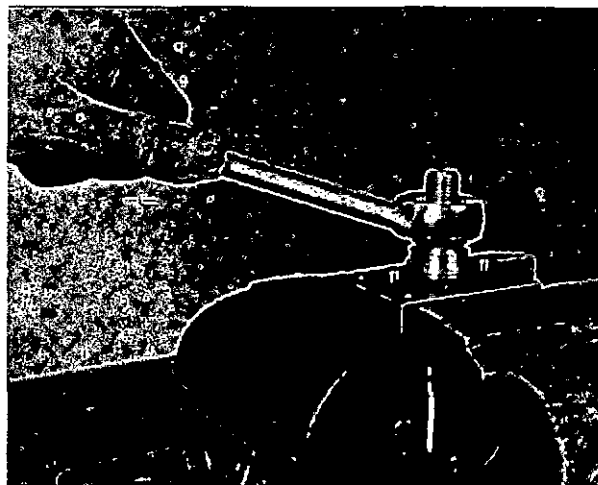

Fig. 20 Dismantling barrel/delivery valve assembly
16. Remove the circlip, baffle sleeve and 'O' ring from pump barrel. Remove 'O' ring, nylon ring and phasing shims from delivery valve flanged bush. Using mounting device 1 682 310 031 and ring spanner 1 687 950 525 (fig. 20) unscrew the connector from the flanged bush and remove the spring, delivery valve and washers.